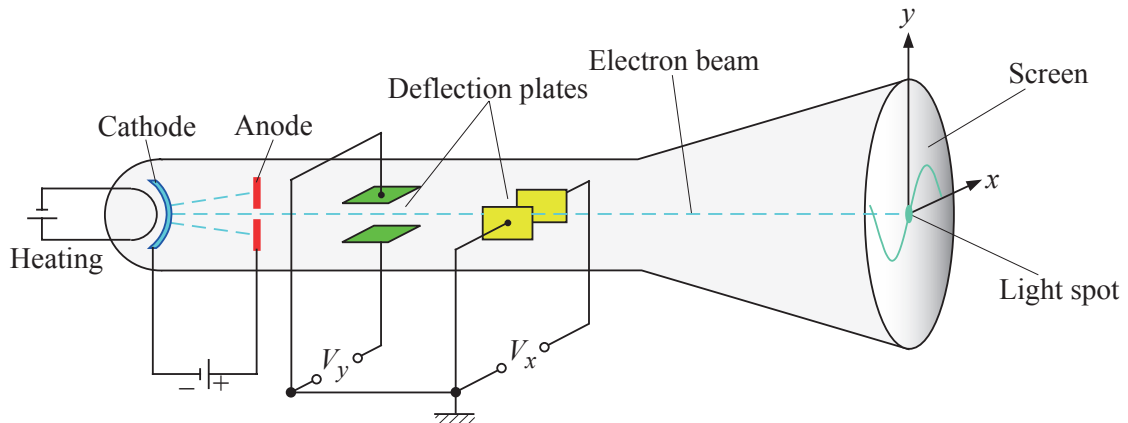

Figure 11.5: Schematic depiction of a cathode-ray oscilloscope.
In this experiment, all currents and voltages are time-dependent and will be measured by means of a (cathode-ray) oscilloscope (CO). The fundamental set-up of a CO is shown in Fig. 11.5.